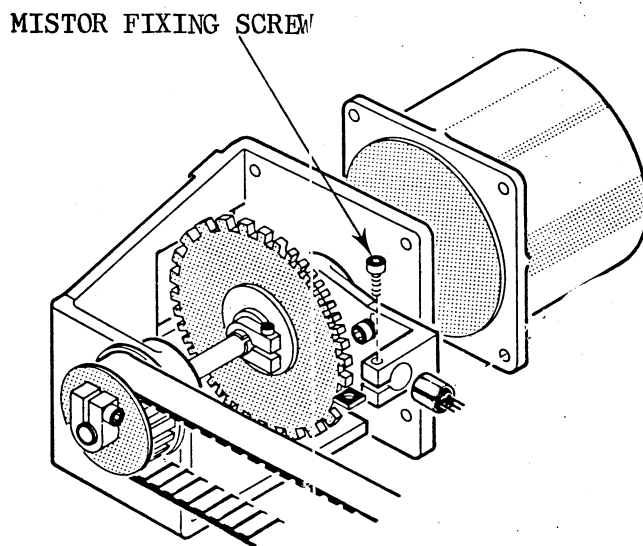

Fig. 7-7A Mistor Localization for the Mina Mechanics
- . Loosen the screw fixing the mistor to the motor support and remove the mistor (Fig. 7-7A/7B)